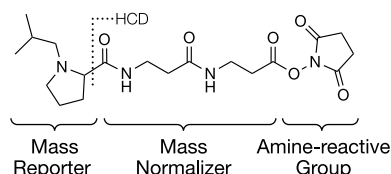

Figure 1 TMT™ and TMTpro reagent structures including functional regions and HCD fragmentation sites.
The TMT™ and TMTpro 96-well Plates enable multiplex relative quantitation by mass spectrometry (MS). Each TMT™ or TMTpro reagent within the multiplex set has the same nominal mass (isobaric) and chemical structure composed of an amine-reactive NHS-ester group, a mass normalizer group, and a mass reporter (see Figure 1). The TMT™ and TMTpro reagent sets can be used to label up to 11 or 18 different peptide samples, respectively, prepared from cells or tissues. For each sample, a unique reporter ion (126–131 Da m/z for TMT™; 126–135 Da m/z for TMTpro) generated in the low-mass region of MS/MS spectra upon peptide fragmentation is used to measure relative protein expression levels.